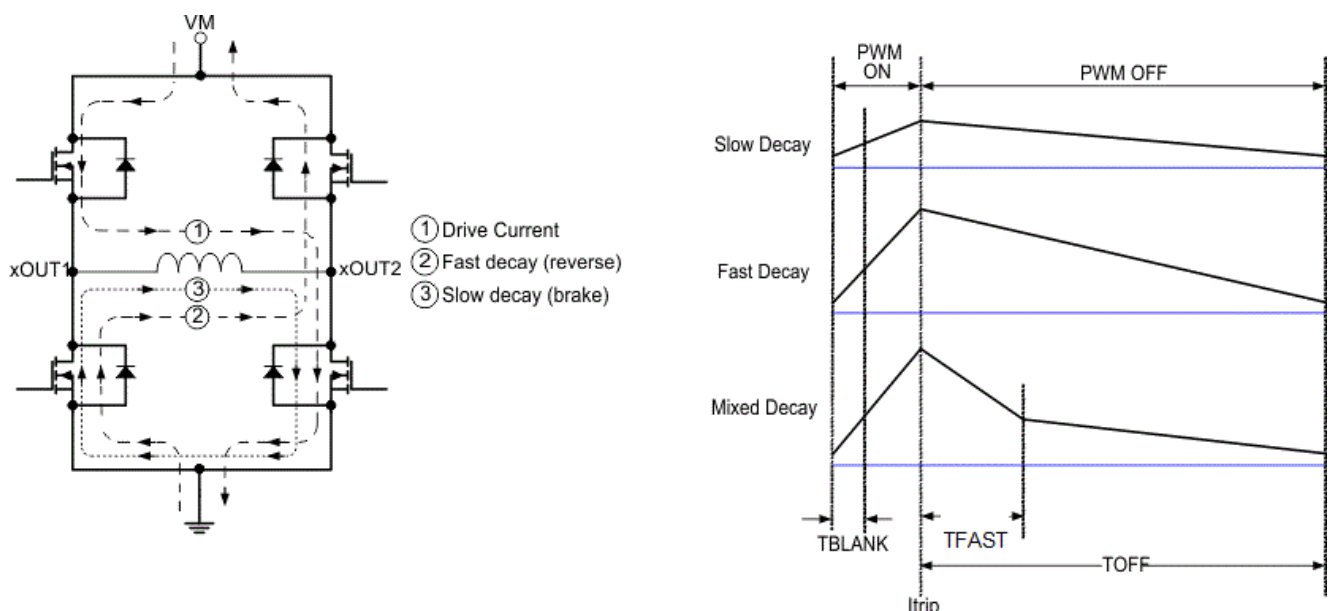

Figure 7-5. Decay Modes
During PWM current chopping, the H-bridge is enabled to drive through the motor winding until the PWM current chopping threshold is reached. This is shown in Figure 7-5, Item 1.
Once the chopping current threshold is reached, the H-bridge can operate in two different states, fast decay or slow decay. In fast decay mode, once the PWM chopping current level has been reached, the H-bridge reverses state to allow winding current to flow in a reverse direction. The opposite FETs are turned on; as the winding current approaches zero, the bridge is disabled to prevent any reverse current flow. Fast decay mode is shown in Figure 7-5, item 2. In slow decay mode, winding current is re-circulated by enabling both of the low-side FETs in the bridge. This is shown in Figure 7-5, Item 3.